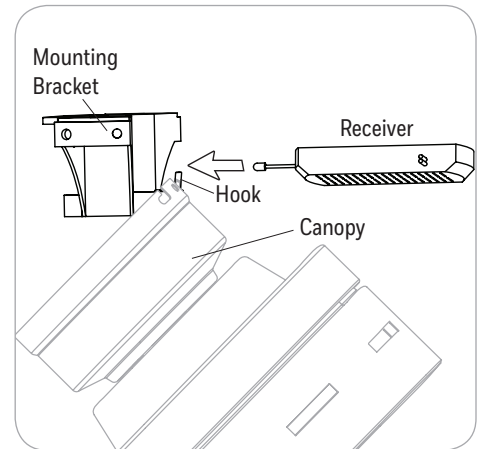

Figure 4.3
3. Raise the motor assembly and place the canopy on the hook of the mounting bracket to free hands during the wiring process (Figure 4.3). Then, insert the receiver into the opening of the mounting bracket.